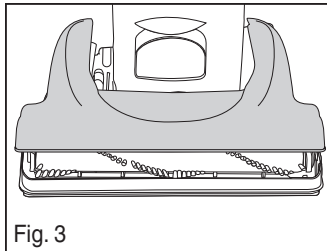

Fig. 3
- 5) Turn vacuum back over to front side and lift off brush roll cover (Fig. 3).
- 10) Replace brush roll cover (Fig. 3).
- 1) Remove hose end from duster chamber (Fig. 3). Flex the hose to help loosen any blockage.